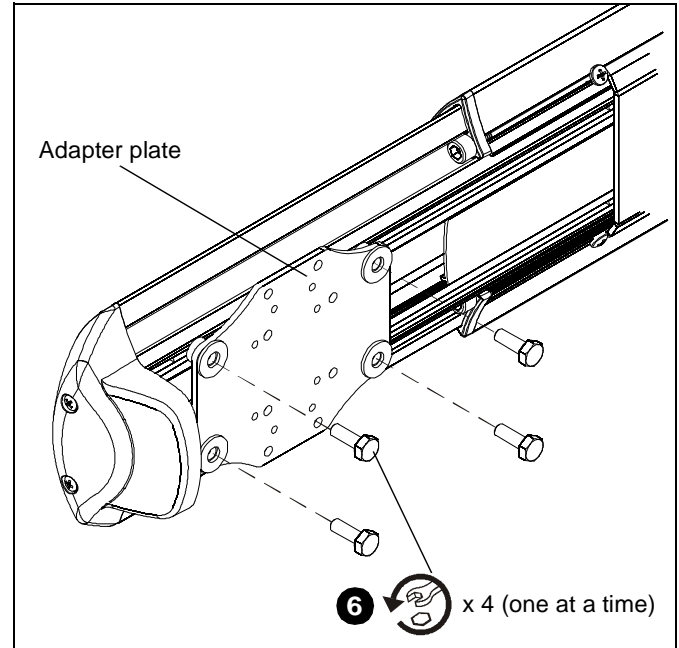

Figure 29
6. Remove one of four bolts from adapter plate. (See Figure 29)